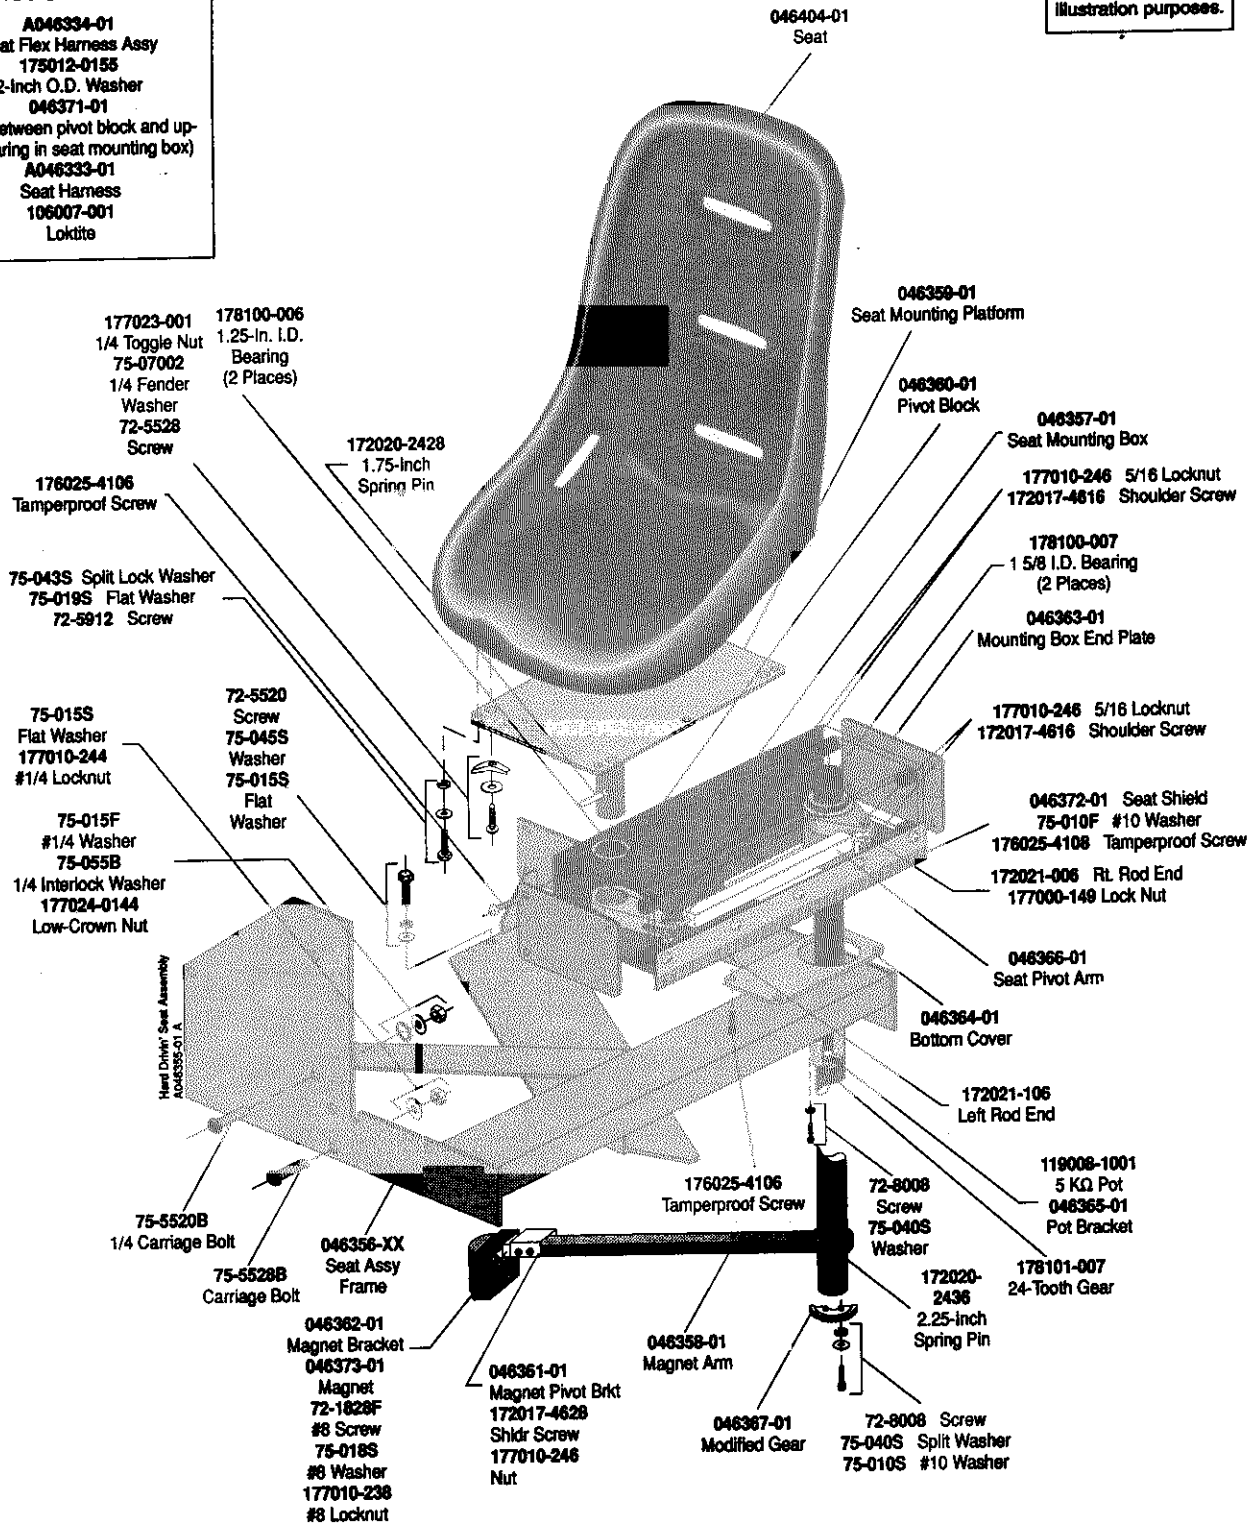

Figure 4-2 Seat Assembly
- ² A046355-01 is the seat assembly with a 1/4-inch metal plate that is bolted to the left side of the cabinet (as shown in Figure 4-2).
¹ A046355-01 is the seat assembly with 046359-01, the seat mounting platform, which has a 1/4-inch vertical metal plate that is bolted to the left side of the cabinet (as shown in Figure 4-2).